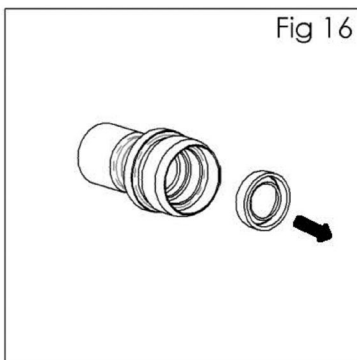

Fig 16
14. Remove rear air valve seal (22) from housing (27) with a hooked instrument. (See fig 16).